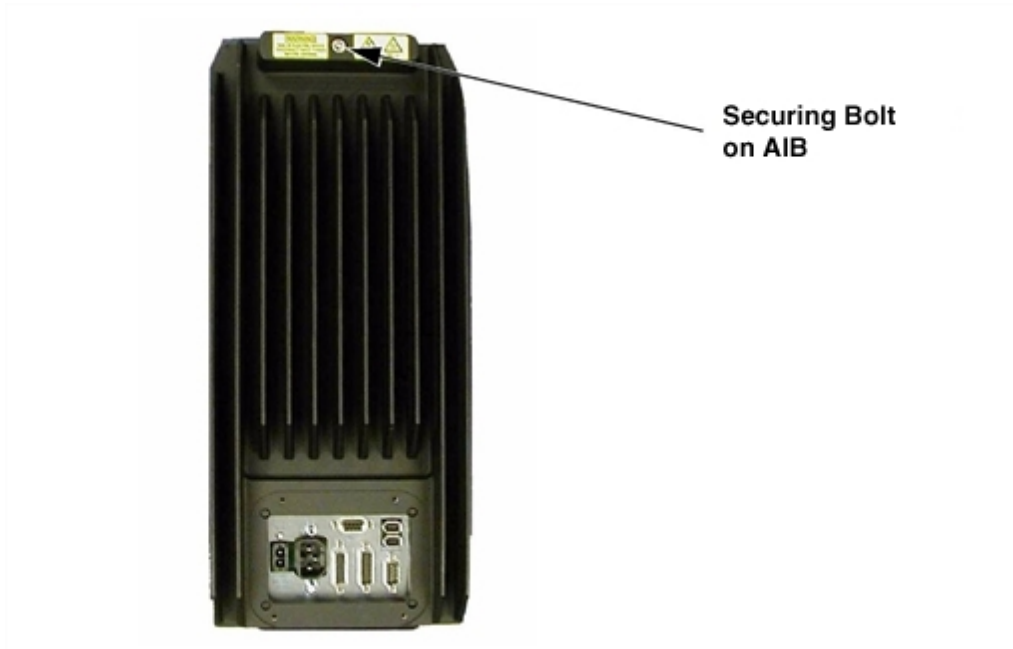

Figure 8-1. Securing Bolt on Chassis, AIB Shown
8. Once the chassis is in place, use a 5 mm hex key to tighten the chassis securing bolt. See Figure 8-1.